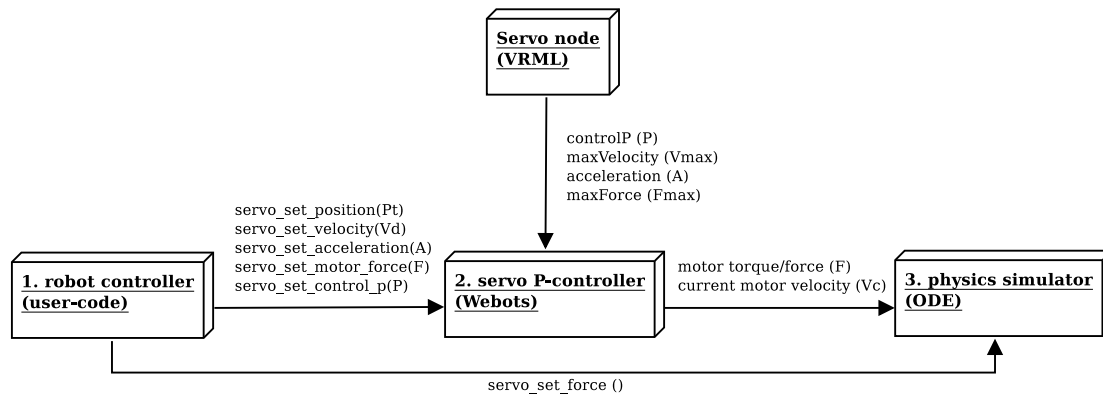

Figure 3.26: Servo control
In Webots, position control is carried out in three stages, as depicted in figure 3.26. The first stage is performed by the user-specified controller (1) that decides which position, velocity, acceleration and motor force must be used. The second stage is performed by the servo P-controller (2) that computes the current velocity of the servo V_c . Finally, the third stage (3) is carried out by the physics simulator (ODE joint motors).